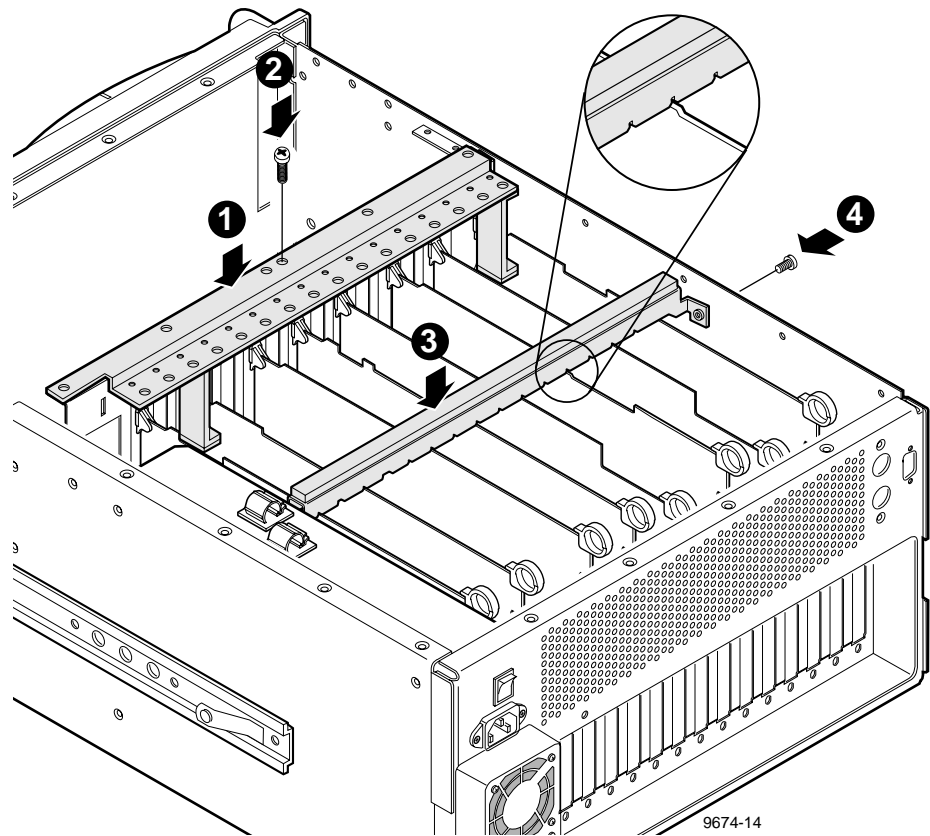

Figure 10. Board retainer bracket installation
1. Insert bracket (❶ in Figure 10) into the board area and ensure that the extenders are on the top edge of all short boards.
2. Use the Torx tool with the T10 bit to replace bracket retaining screw (❷ in Figure 10).
1. Place bracket (❸ in Figure 10) over the boards.
2. Align the full size boards to the correct bracket slots (see insert in Figure 10) and carefully seat the bracket onto the boards.
3. Use the Torx tool with the T10 bit to replace bracket retaining screw (❹ in Figure 10) at the side of the PDR 100.